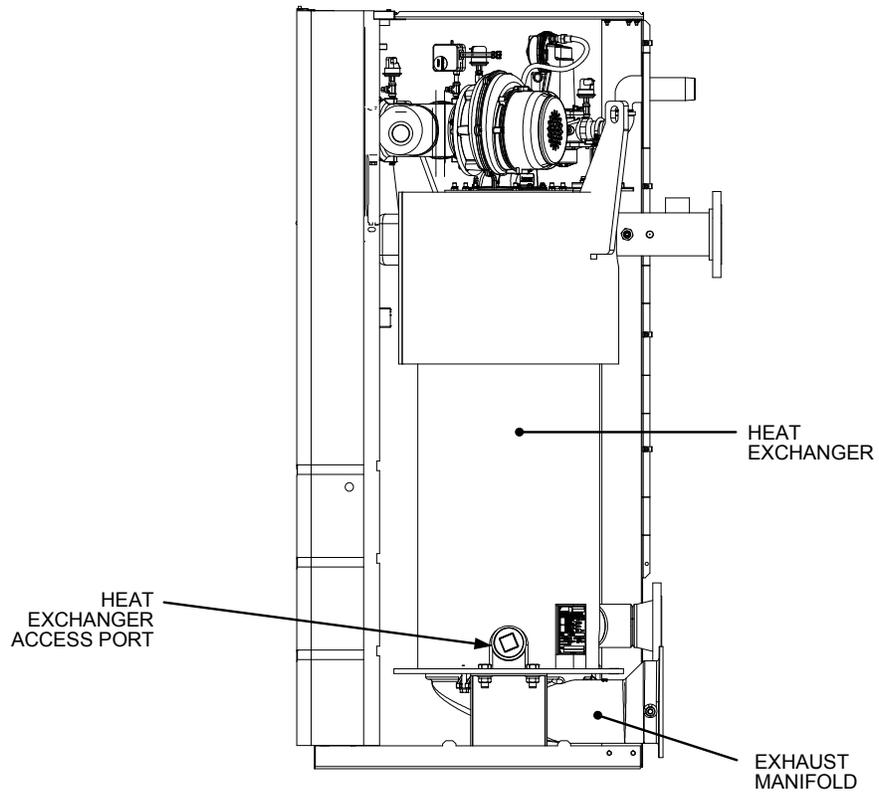

Figure 3. Benchmark 2.0LN (VFD Design) - Right Side View
5. After the heat exchanger has been drained, remove the 2-1/2 inch access port plug on the right side of the heat exchanger as shown in Figure 3.